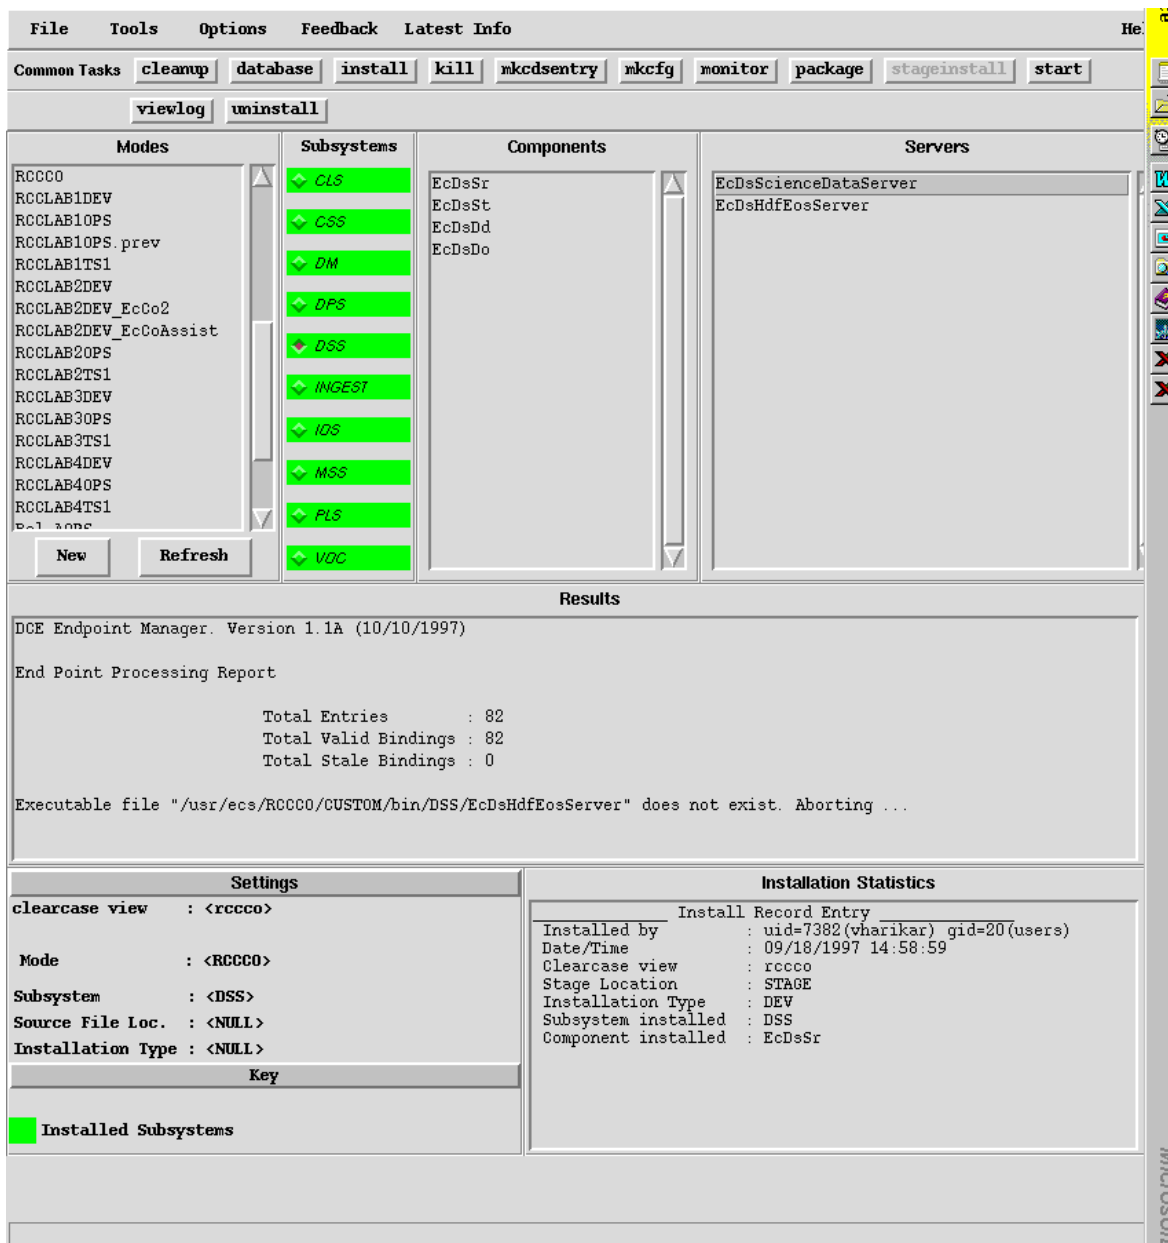

Figure 6.1-2. Subsystem Manager GUI
- This will invoke the Subsystem Manager GUI, as indicated in Fig. 6.1-2.